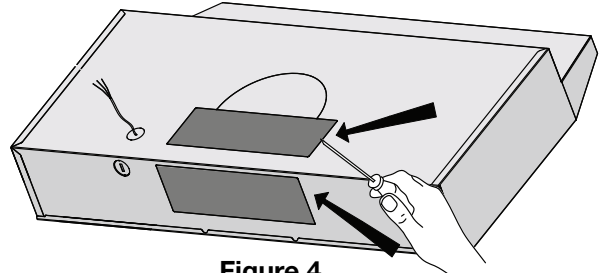

Figure 4
- Depending on the exterior venting option chosen (see page 10), pop out the steel panel on either the top or rear of the range hood (see Figure 4).